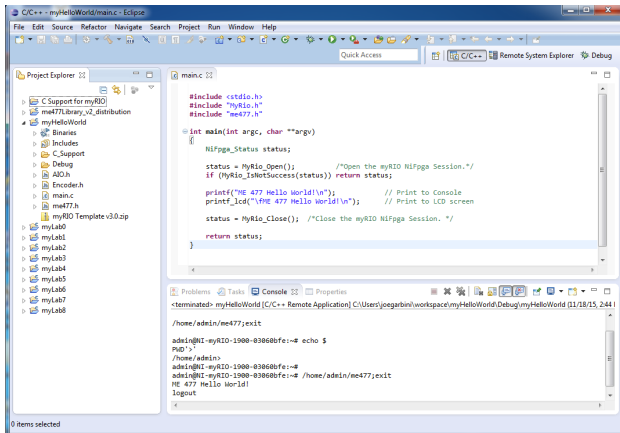

Figure 00.8: ME 477 Project Templates.
4. Ensure that all items are checked and click **Finish** to import ME 477 C Support for myRIO. See Figure 00.8.